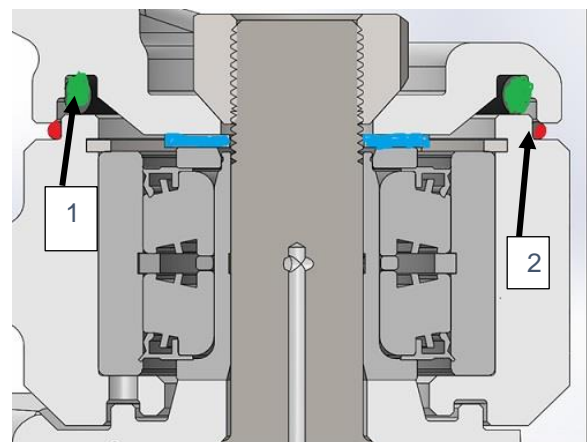

Figure 150
15. Two O-rings used under the stabilizer. The O-rings are placed between the stabilizer and the bearing and over the seal of the bearing. Figure 150
16. The O-ring between the stabilizer and bearing is used on all units, item 1. An O-ring around the bearing, item 2. Figure 150